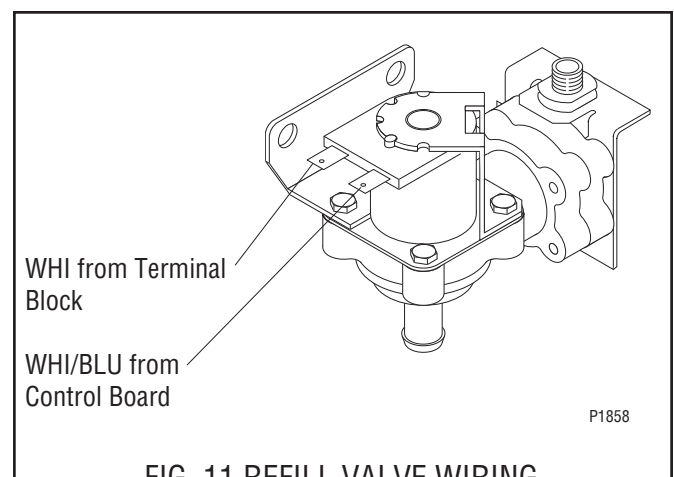

FIG. 11 REFILL VALVE WIRING
7. Refer to FIG. 11 when reconnecting the wires.